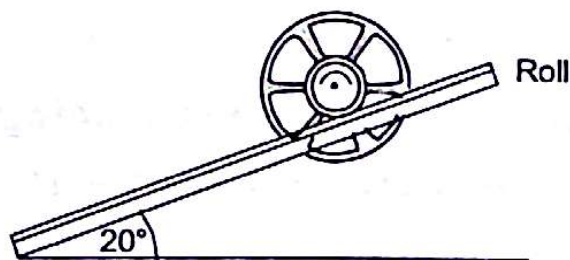

Fig. 19.15
19.1 A flywheel of centroidal radius of gyration 0.5 m is rigidly attached to a shaft of radius 25 mm which may roll along parallel rails inclined at an angle of 20° as shown in Fig. 19.15. The system is released from rest. What is the velocity of the centre of the shaft after it has moved 2 m along the rails?